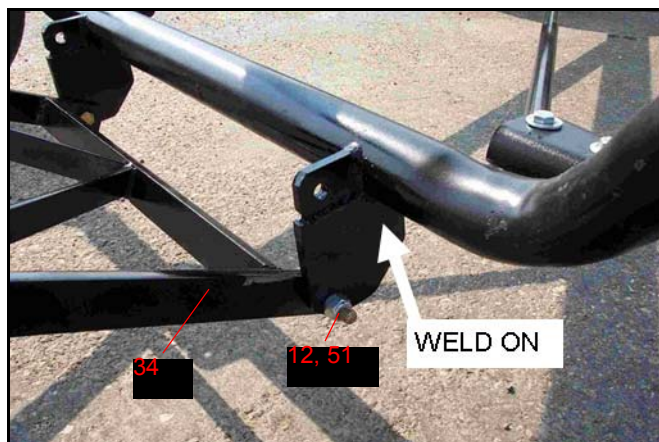

Figure 3.8
5. Connect the ram extension (34) to v-frame pipe (6) with bolts (12) and locknuts (51). See Figure 3.8.